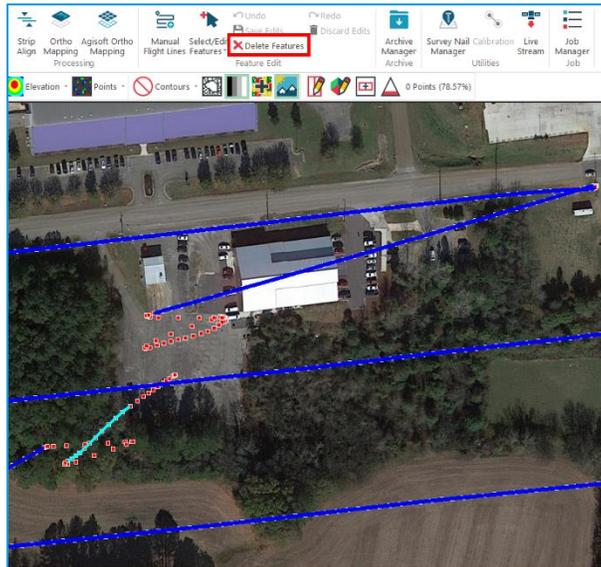

Figure 67 – Editing Flight Lines
- b) Select the flight line you wish to delete, and the line will be highlighted (Figure 67).